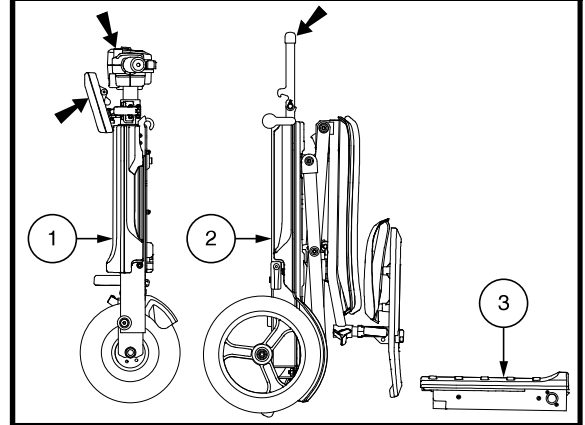

Figure 15. Disassembly
**To disassemble your scooter (see figure 15):**